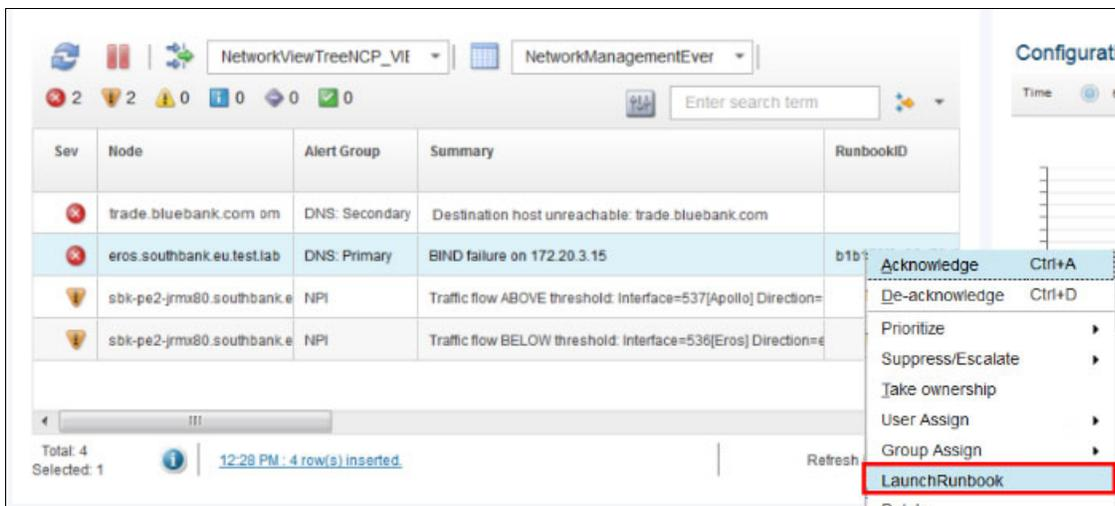

Figure 2-22 Annette can start a Runbook that is associated with a particular event type
- Annette starts the Runbook to restart Primary DNS, as shown in Figure 2-22.